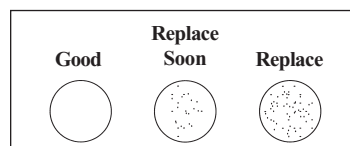

FIGURE 2. FIBER OPTIC CABLE REPLACEMENT CHART
Fiber optic breakage can result in light and function loss. Hold the tip connector of the Fiber Optic Cable towards a regular light and examine the light source connector end of the cable for broken fibers. Small black dots on the surface of the glass fibers indicate broken fibers (see Figure 2). Do not use the fiber optic light source for this test as the intense light can cause eye damage. A damaged Fiber Optic Cable must not be used and must be replaced.
- c. Hold the tip connector towards a regular light and examine the light source adapter end of the Fiber Optic Cable for broken fibers. Replace the cable if too many fibers are broken (see Figure 2). Damage to the fibers will reduce the amount of light transmitted so that the bougie may not provide adequate illumination. If light transmission is decreased, replace the Fiber Optic Cable.